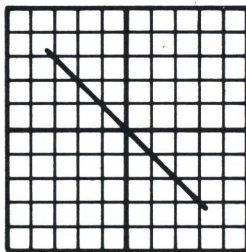

FIGURE 7-2
- g. Now connect the horizontal input to the Channel 1 output. Advance the tape to the 400 Hz section. A pattern as shown in Figure 7-2 should now appear. If not, reverse the two leads of the horizontal input. This pattern represents the "zero" or near "zero" phase shift pattern of the system.
- h. Allow the tape to run to the 5 kHz section and observe if phase shift has occurred. (Refer to Figures 7-2 through 7-5.) If phase shift has occurred, adjust the azimuth screw A to correct this phase shift in the exact reverse rotation to which it has occurred. This means that if the pattern was increased counterclockwise from "zero" shift as frequency increased, screw A should be turned in such a way as to cause the scope display to rotate counterclockwise back to the "zero" position.
- j. Figures 7-2 through 7-5 show the proper phase angles which would be observed on probably the majority of oscilloscopes available today. It should be noted, however, that some oscilloscopes will produce the opposite direction of deflection when "in phase" signals are connected to the vertical and horizontal inputs. Therefore, before making any stereo phasing adjustments, determine which angle of deflection will be produced on the scope being used when "in phase" signals are connected to its horizontal and vertical inputs. (Follow step g.)